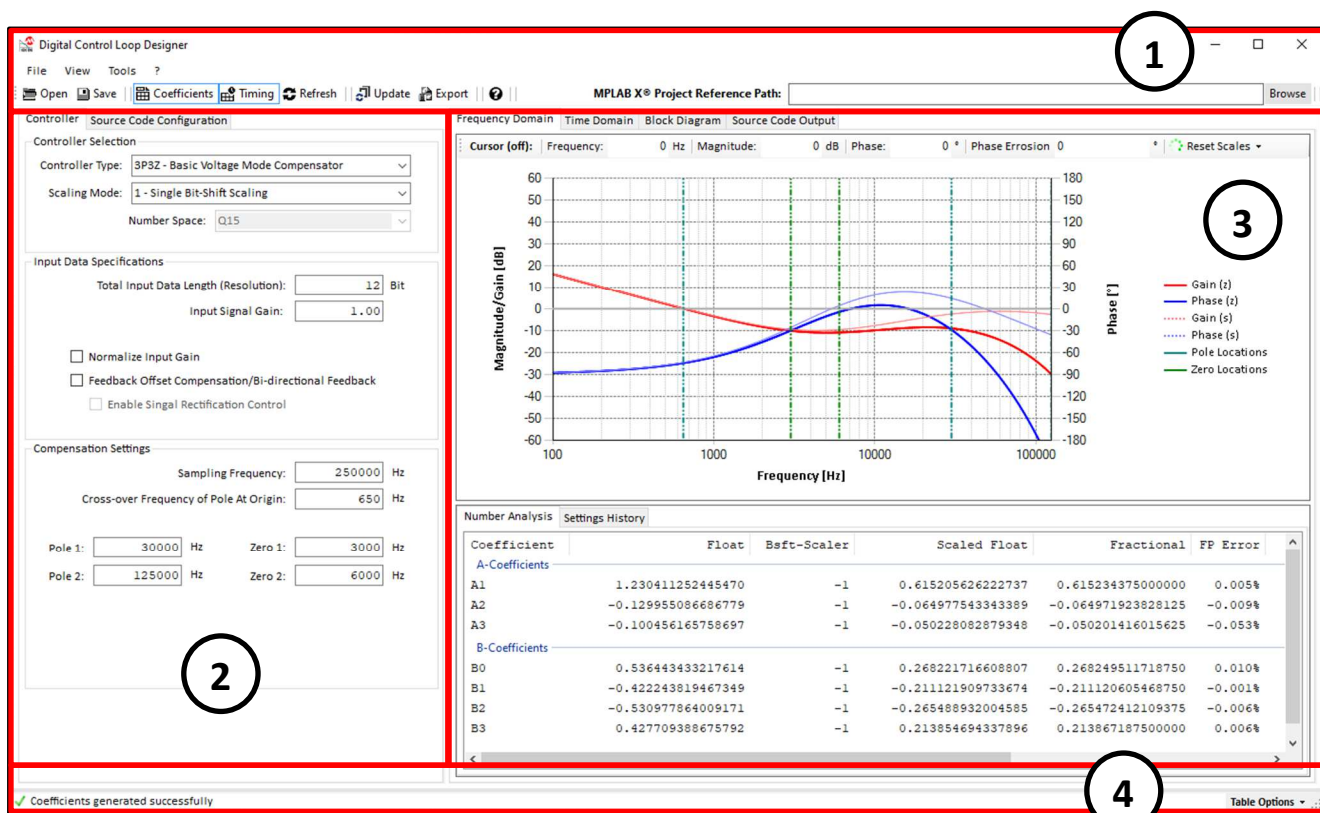

Figure 2: Digital Control Loop Designer z-Domain Controller Main Window Overview
The main application window is divided into four sections as shown in Figure 2 below. The graphical user interface (GUI) has been designed following Microsoft Win32 UX Guidelines to make it most intuitive to use. On the top of the Window you find menus giving access to files and application functions. A command bar has been added to give quick access to most common functions of the application (1).